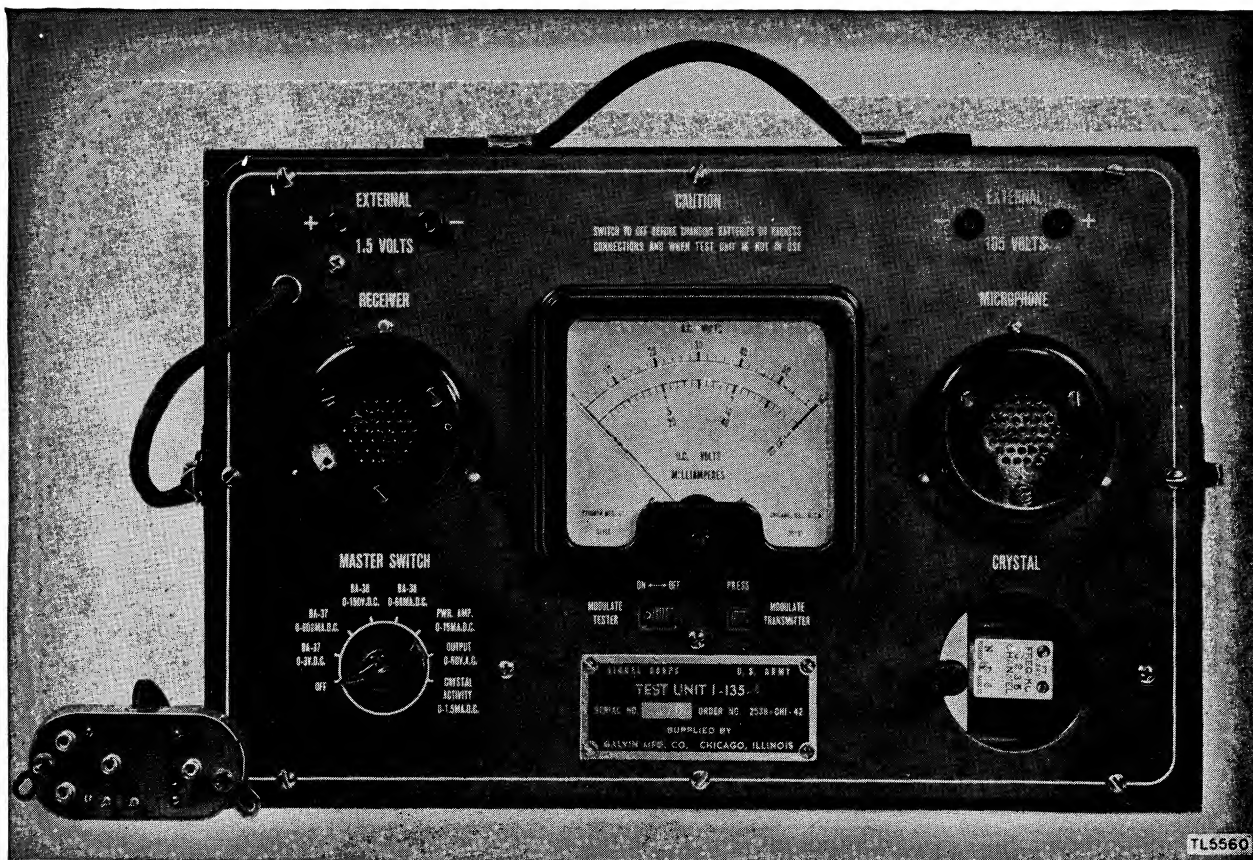

Figure 62. Test Unit I-135- ().
Test Unit I-135-() contains a multirange voltmeter and milliammeter, a crystal tester, and an r-f and a-f signal source. (See fig. 62.) The test unit is used for measuring battery voltage and current, r-f amplifier plate current audio output voltage, and crystal activity. In addition, it supplies a modulated r-f signal source for the test, alignment, and pre-setting of the receiver and an a-f signal source for determining the modulation capability of the transmitter. It combines in one case all the meters and additional apparatus required for use with Test Equipment IE-15-A. (See par. 76.)
e. The positions of the MASTER SWITCH of the test unit (fig. 62) are as follows:
(1) OFF, in which position the external and internal batteries of Test Unit I-135-() are disconnected from the test unit and the radio set chassis. The radio set and oscillator are in all other positions of the MASTER SWITCH.
(2) BA-37 0-3V. D. C., in which position the meter indicates the voltage of the external A battery or Battery BA-37.
(5) BA-38 0-60 MA. D. C., in which position the meter indicates the current drain of the external B battery or Battery BA-38.
(6) PWR. AMP. 0-15 MA. D. C., in which position the meter indicates the r-f power-amplifier plate current when the radio set is in the transmit position.
(7) OUTPUT 0-60 V. A. C., in which position the meter indicates the audio output voltage of the receiver circuit. (The meter is connected across the test unit earphone.)
(8) CRYSTAL ACTIVITY 0-1.5 MA. D. C.,